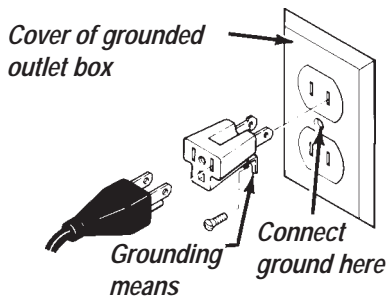

Figure A-2
- If you have a two-hole receptacle, use a **temporary** adapter to plug in the MARK 520S, as illustrated in Figure A-2. The grounding lug or wire on the adaptor **MUST** be connected to a permanent ground such as a grounded outlet box. The temporary adapter should be used only **until** a properly grounded outlet can be installed. **(Adapters are not allowed in Canada.)**